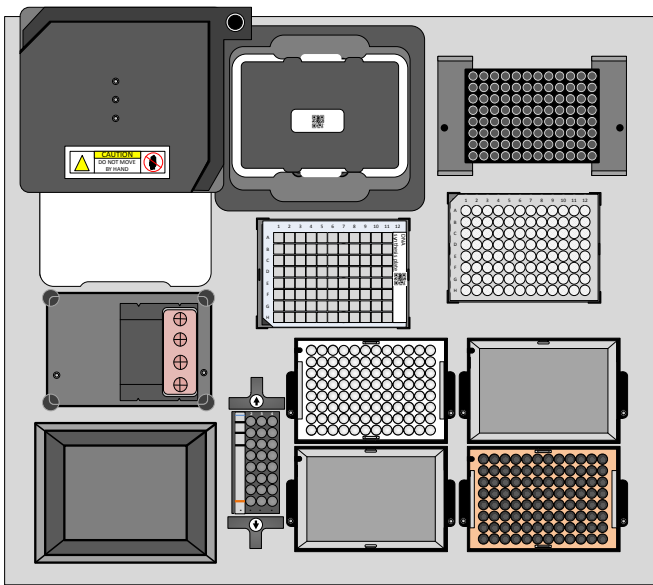

Figure 5. Loaded deck at the beginning of run (Example 8-reaction cloning job)
8. Refer to Figure 5 showing a loaded deck at the beginning of a run. Confirm that all components are securely seated. Close the hood, and if prompted click next.